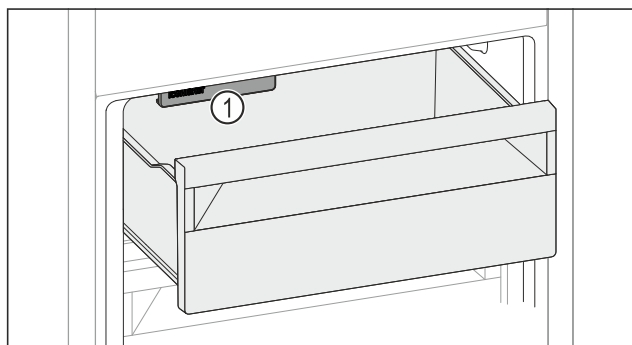

Fig. 154
- ▶ Watch out for the IceMaker Fig. 154 (1).